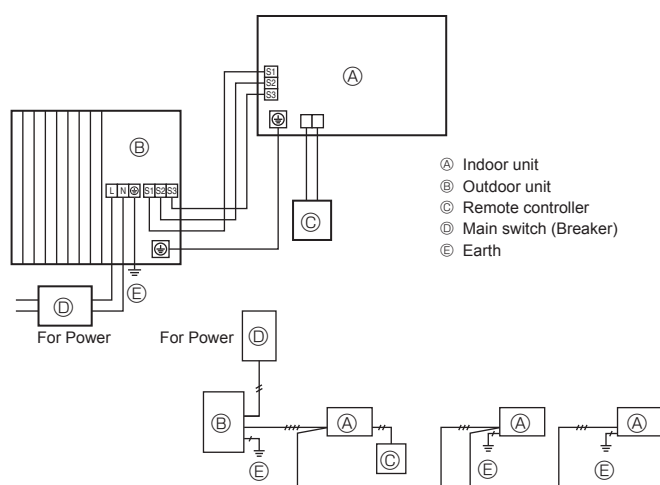
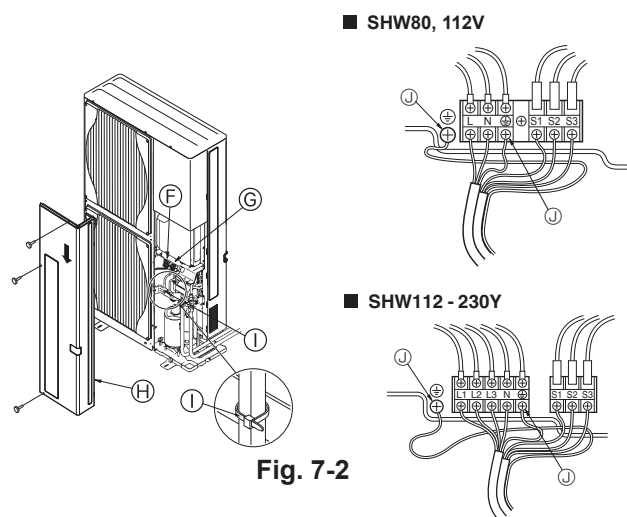

Fig. 7-1
Fig. 7-2
7.1. Outdoor unit (Fig. 7-1, Fig. 7-2)
- Wire the cables referring to the Fig. 7-1 and the Fig. 7-2.